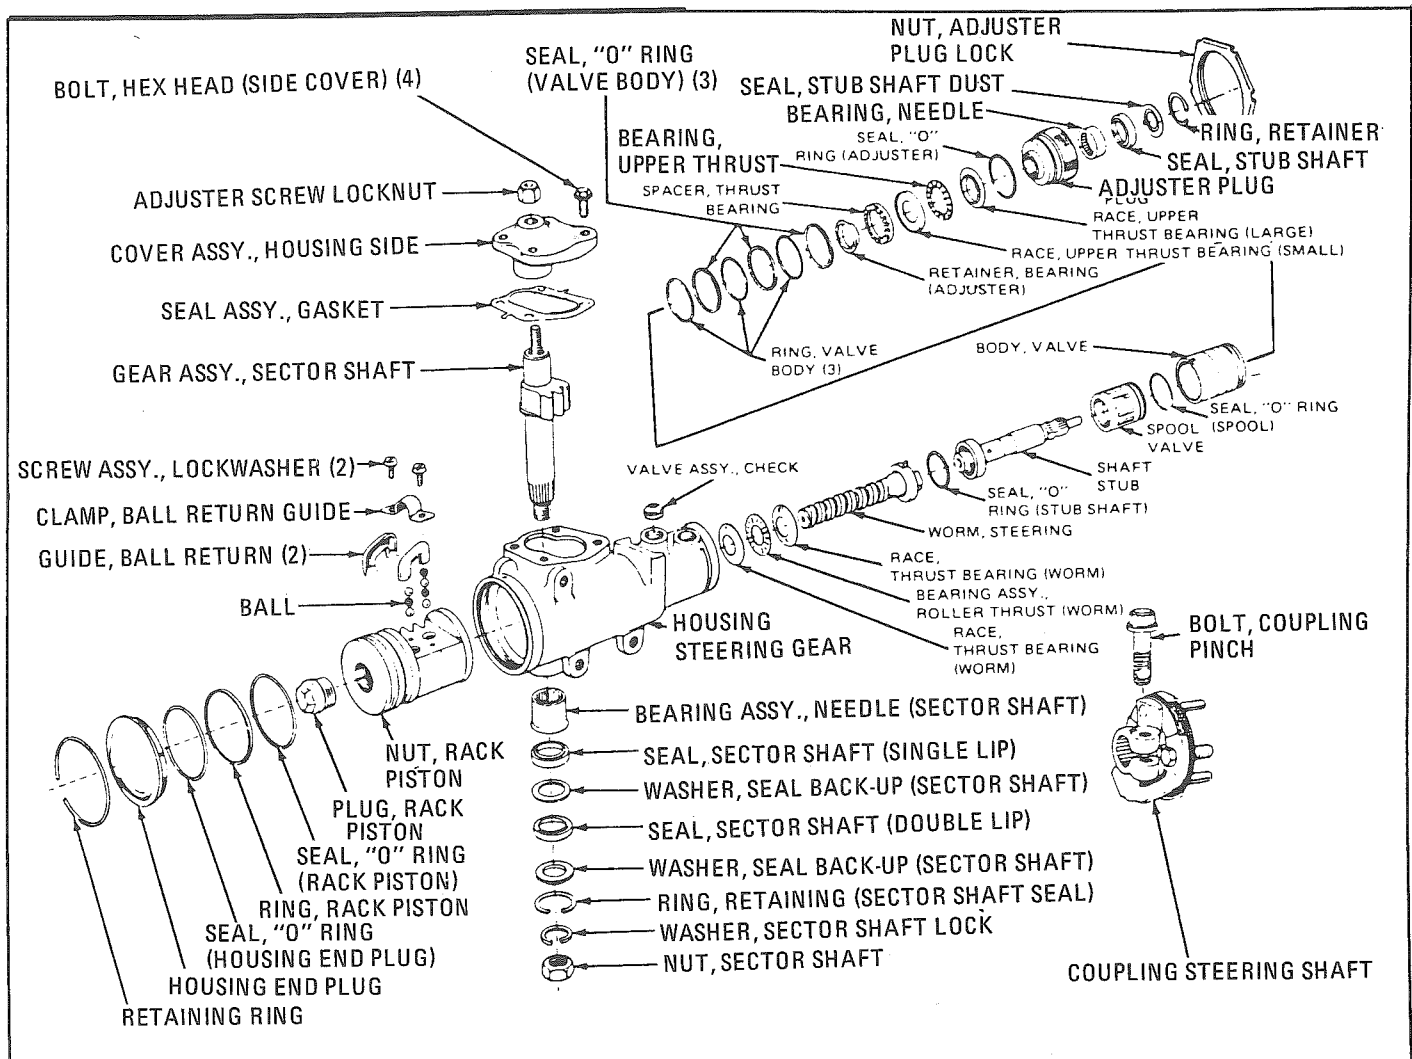

Figure 142 – Steering Gear Disassembled
3. Place the valve assembly and worm shaft in the housing as a unit (figure 142). **Do not push against the stub shaft as this could cause the stub shaft and cap to pull out of the valve body, allowing the spool seal to slip into valve body fluid grooves.** Install the valve assembly by pushing on the outer diameter of the valve body with the finger tips. Be sure that the Teflon rings do not bind inside the housing. The valve assembly is correctly seated when the fluid return hole in the gear housing is fully visible.
1. Remove the snap ring (figure 142) that secures the sector shaft seals in the lower end of the housing. Remove the lower spacer washer.
**CHECK VALVE REMOVAL AND INSTALLATION** – If the inlet port check valve requires service, refer to figure 142.